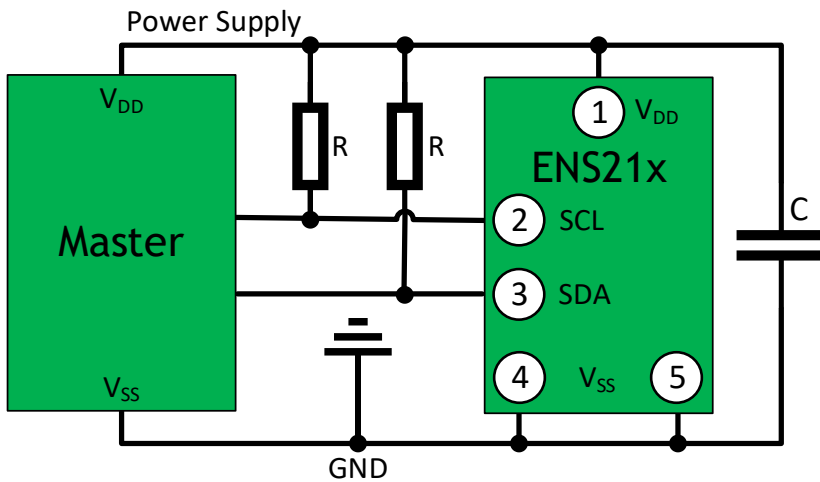

Figure 1: Recommended Application Circuit
The typical application is shown in figure 1. Firstly note that the 0.1 μ F decoupling capacitor “C” is positioned as close as possible to the device.
The operating voltage range of ENS21x(A) is from 1.71V to 3.60V. If the power supply of the host in figure 1 is out of the range, e.g. 5V or 1.2V, a level shifter should be added between the host and the device.